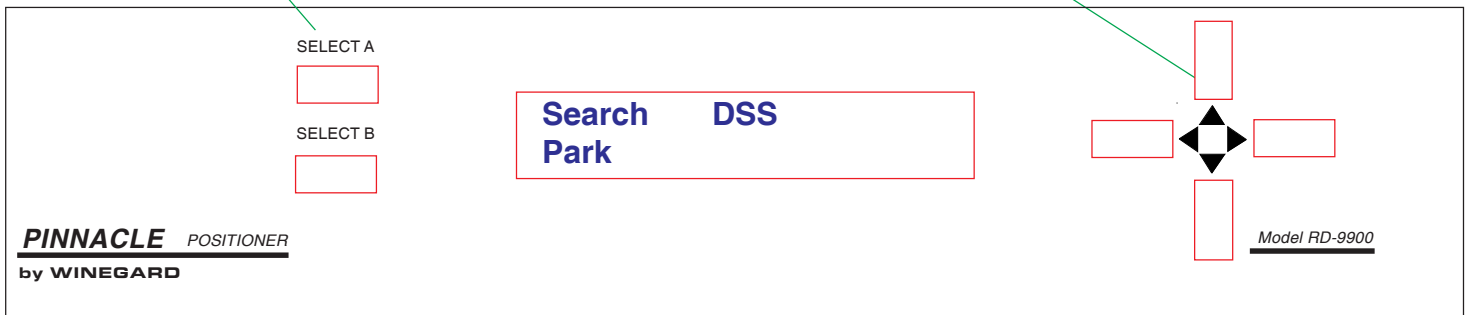

Figure 12
3. On the positioner press **[UP/DOWN]** arrow button until **Search DSS** appears on the positioner screen, Figure 12.
4. Press **[SELECT A]** to enter the search function, Figure 12. (Press **[SELECT B]** if **Search DSS** is bottom option on screen.
If no satellite was found, the message **Satellite Not Found, Press Any Button**, will be displayed by the positioner. Press any button to return to the menu shown in Figure 12, page 9.